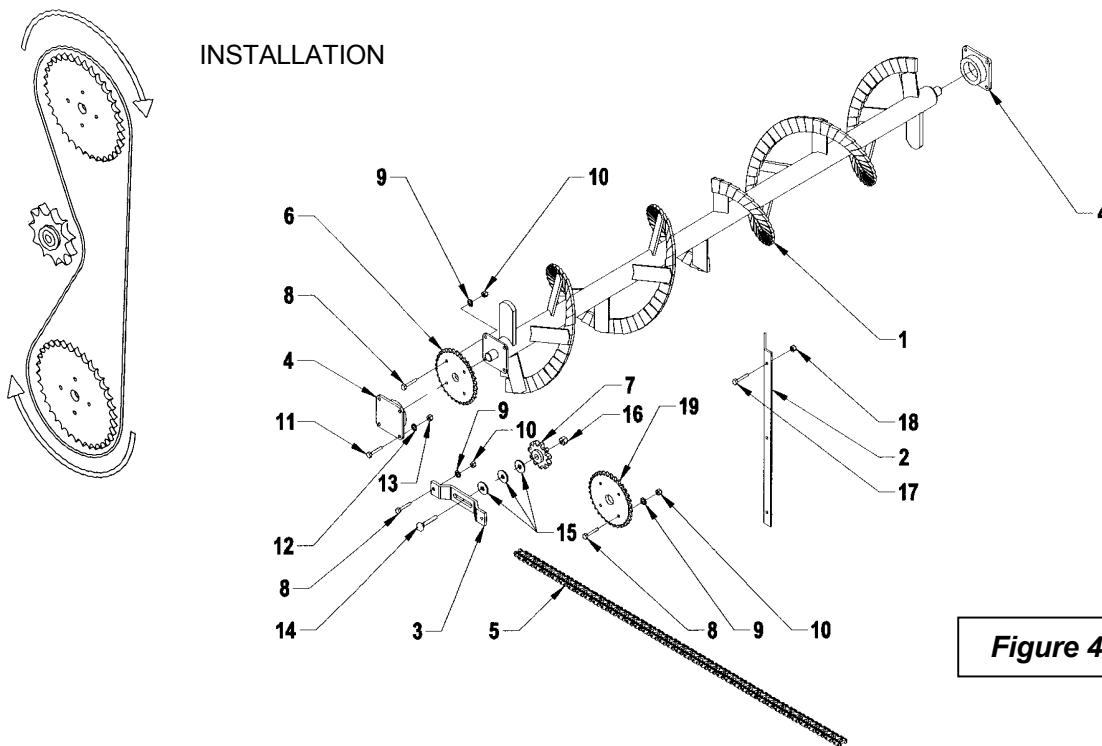

Figure 4
(Figure 4)
4. Install idler sprocket (item 7) on chain idler support (item.3) as shown. Assemble support inside snowblower in the pre-bored holes.
5. Install the chain (as shown on fig. 4). Align the auger's sprockets with the idler sprocket and tighten securely the setscrews on the auger bearings to stabilize the augers.